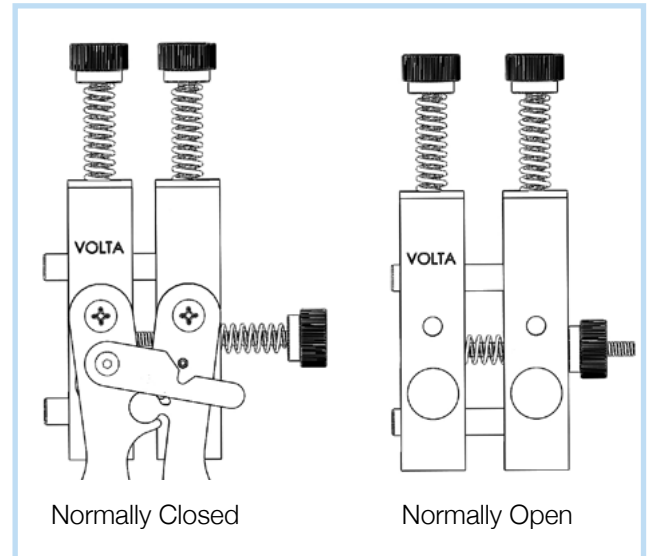

Fig. 6
The Mini R8 pliers can be used in two different positions (fig. 6).
1. Unscrew the locking nut (7) until it is completely disconnected from the locking bolt (2).
2. Pull the rider (8) away from the platform (3) until it is completely disconnected from the bars (1).
3. Place the spring (10) in the desired position (refer to Fig. 6):
- a. Between the rider (8) and the platform (3) for normally open use.
- b. Between the platform (3) and the locking nut (7) for normally closed use.
4. Screw the locking nut (7) to the locking bolt (2).